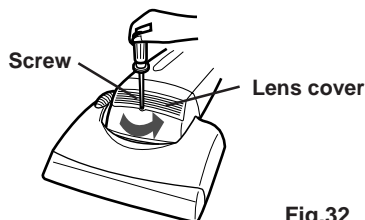

Fig.32
- 1 Remove the lens cover by unscrewing the screw. (Fig. 32)